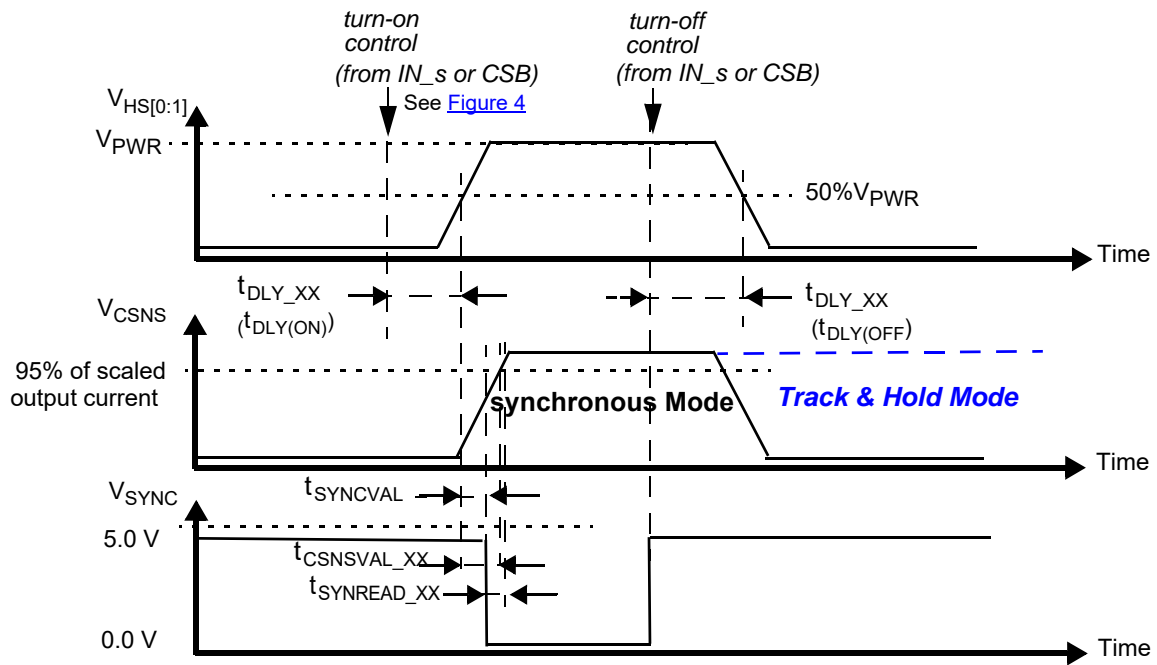

Figure 9. Synchronous and Track & Hold current sensing modes: associated delay and settling times
32. Time required to switch off the channel after detection of overtemperature (OT), overcurrent (OC), SC or UV error (time measured between start of the negative edge on the FSB pin and the falling edge on the output voltage until $V(\text{HS}[0:1]) = 50\%$ of V_{PWR}).
33. Settling time ($= t_{CSNSVAL_XX}$), SYNC output signal delay ($= t_{SYNCVAL_XX}$) and Read-out delay ($= t_{SYNREAD_XX}$) are defined for a stepped load current ($100\text{ mA} < I(\text{LOAD}) < I(\text{OCLX A FOR CSNS_RATIO_S} = 1, \text{ AND } 300\text{ mA} < I(\text{LOAD}) < I(\text{OCLX A}_0 \text{ FOR CSNS_RATIO_S} = 0)$). See Figure 9 and Output current monitoring \(CSNS\).
34. Settling time ($= t_{\text{CSNSVAL_XX}}$), SYNC output signal delay ($= t_{\text{SYNVAL_XX}}$) and Read-out delay ($= t_{\text{SYNREAD_XX}}$) are defined for a stepped load current ($100\text{ mA} < I(\text{LOAD}) < I_{\text{OCLX A FOR CSNS_RATIO_S}} = 1$, AND $300\text{ mA} < I(\text{LOAD}) < I_{\text{OCLX A_0 FOR CSNS_RATIO_S}} = 0$) See Figure 9 and Output current monitoring \(CSNS\).
The CS pin allows independent current monitoring of channel 0 or channel 1 up to the steady state overcurrent threshold. It can also be used to sense the device temperature. The different functions are selected by setting bits CSNS1_en and CSNS0_en to the appropriate value (Table 23). When the CSNS pin is sensed during switch-off in the (optional) track & hold mode (see Figure 9), it outputs the scaled value of the load current as it was just before turn-Off. When several devices share the same pull-down resistor, the CSNS pins of devices the current of which is not monitored must be tri-stated. This is accomplished by setting CSNS0_en = 0 and CSNS1_en = 0 in the GCR register (Table 10). Settling time ($t_{CSNSVAL_XX}$) is defined as the time between the instant at the middle of the output voltage's rising edge ($HS[0:1] = 50\%$ of V_{PWR}), and the instant at which the voltage on the CSNS-pin has settled to $\pm 5.0\%$ of its final value. Anytime an overcurrent window is active, the CSNS pin is disabled (see Overcurrent detection on resistive and inductive loads). The current and temperature sensing functions are unavailable in Fail-safe mode and in Normal mode when operating without the V_{DD} supply voltage. In order to generate a voltage output, a pull-down resistor is required ($R(CSNS)=1.0\text{ k}\Omega$ typ. and $470 < R(CSNS) < 10\text{ k}$). When the current sense resistor connected to the CSNS pin is disconnected, the CSNS voltage is clamped to $V_{CL(CSNS)}$. The CSNS pin can source currents up to about 5.6 mA.
To synchronize current sensing with an external process, the SYNC signal can be connected to a digital input of an external MCU. SYNC is asserted logic low when the current sense signal is accurate and ready to be read. The current sense signal on the CSNS pin has the specified accuracy $t_{SYNREAD_XX}$ seconds after the falling edge on the SYNC pin (Figure 9) and remains valid until a rising edge is generated. The rising edge that is generated by the SYNC pin at the turn-OFF instant (internal or external) may also be used to implement synchronization with the external MCU. Parameter t_{SYNVAL_XX} is defined as the time between the instant at the middle of the output-voltage rising edge ($HS[0:1] = 50\%$ of V_{PWR}), and the instant at which the voltage on the SYNC-pin drops below 0.4 V (V_{SOL}). The SYNC pins of different devices can be connected together to save μ -controller input channels. However, in this configuration, the CSNS function of only one device should be active at a time. Otherwise, the MCU does not determine the origin of the SYNC signal. The SYNC pin is open drain and requires an external pull-up resistor to VDD.